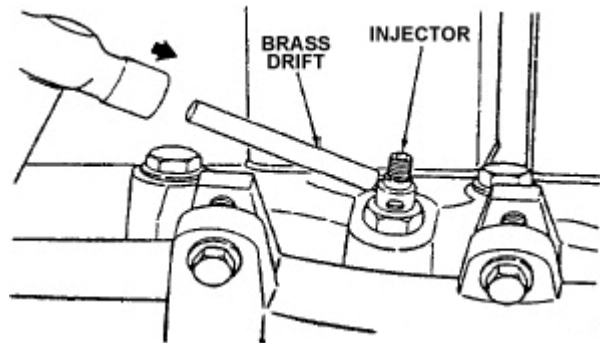

Fig 2: Loosening Injector Body
- 5: Hit the injector body with a brass drift to loosen it. (Fig. 2)